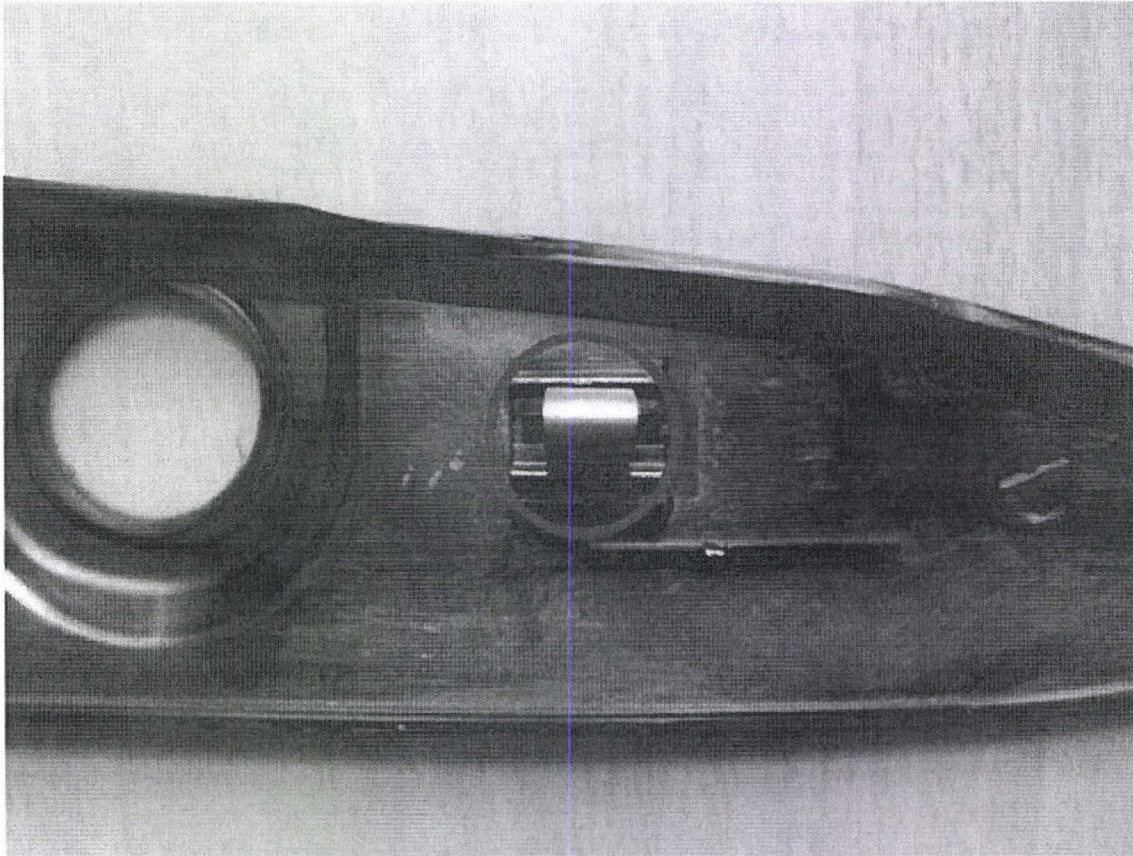

Figure 5
-Check that the latch cover clips are centrally positioned before refitting the latch cover (Figure 5)